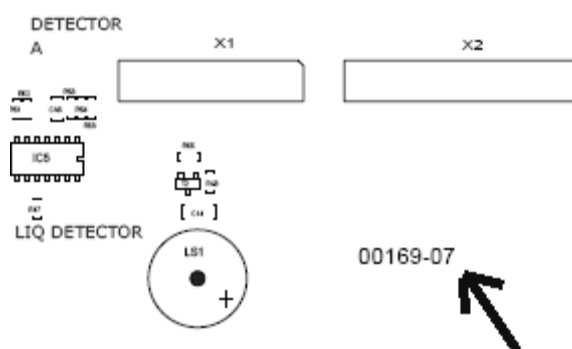

Figure 12.2
As an example, refer to Figure 12.2 below which shows the identification number (00169) and version number (07) of the CPU PCB, always printed on the component side.